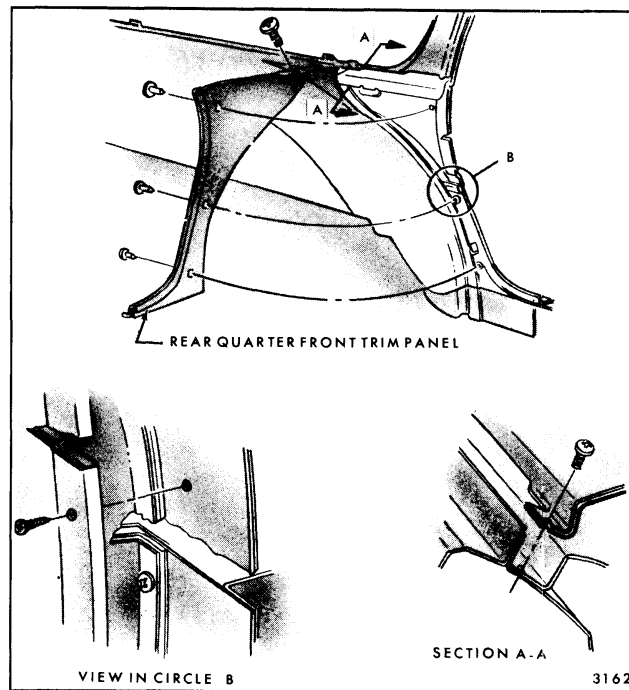

Fig. 6-14-Quarter Front Trim Finishing Panel - "B" Station Wagon Styles
5. Remove attaching screws from finishing panel and remove panel (Fig. 6-14).